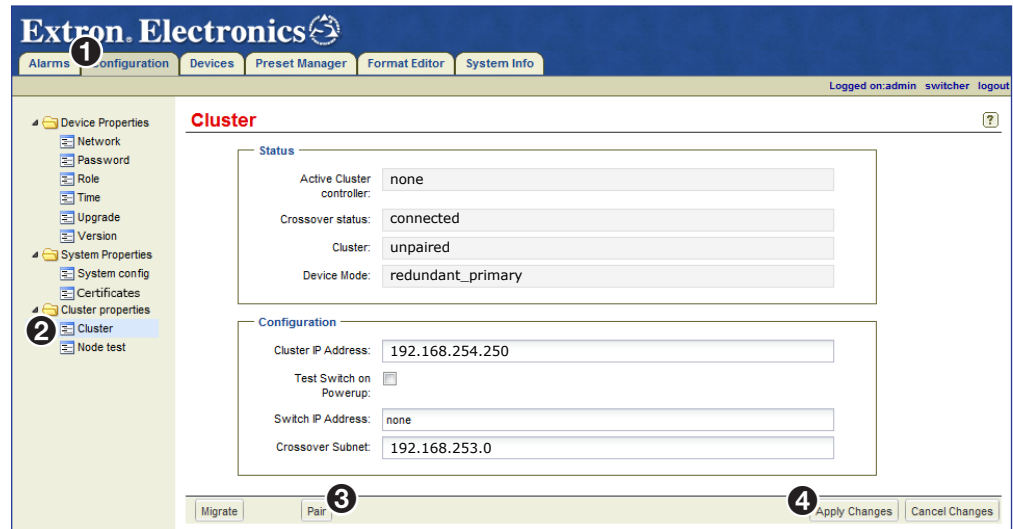

Figure 180. Configuration Page — Primary Controller Pairing
The Configuration page opens (see figure 180, ①).